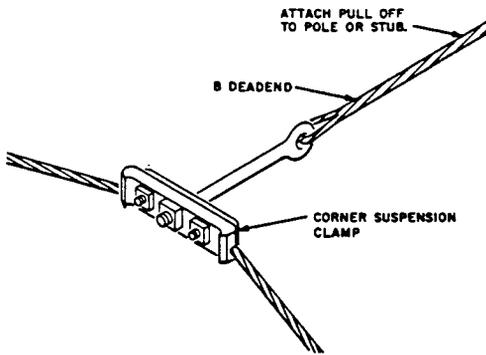

Fig. 12 - Pull-Off for Aerial Turn
- 7.03 Avoid making turns in the span wherever practical but when a turn in the span is necessary and the corner pull is not more than 50 feet, construct a pull-off as shown in Fig. 12.